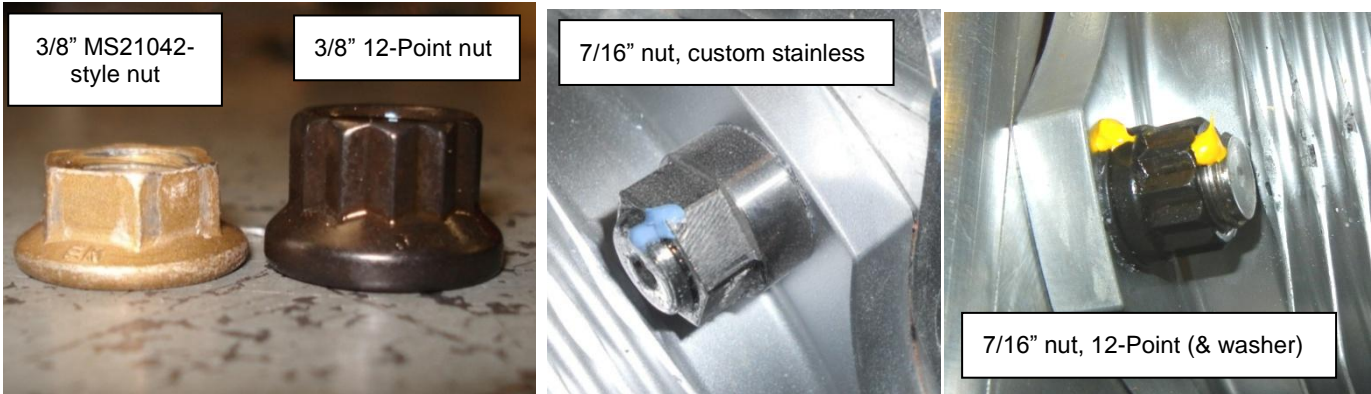

Figure 138 – 12-Point Nuts, 7/16” Hardware (on right)
- Later engines (See Section 13 for serial number ranges) use 7/16” hardware on the engine through bolts and studs. On these parts a custom-made nut (shown in Figure 138) is used. At overhaul 7/16” 12-point nuts & washers are to be fitted (Figure 138 right).